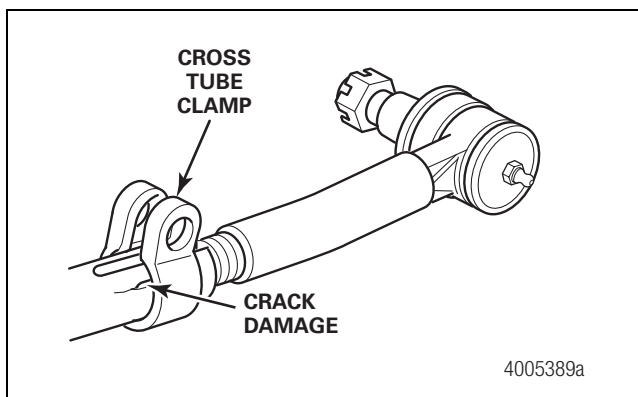

Figure 4.12
10. Inspect the relay rod, tie rods and clamps for damage. Figure 4.12.
When the roadside check indicates tie rod end movement of 1/8-inch (3 mm) or more, immediately remove the vehicle from service to replace the tie rod. Figure 4.12.